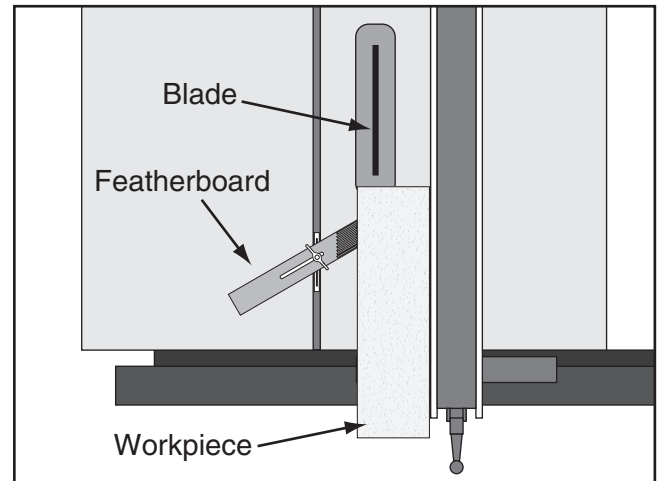

Figure 85. Featherboard installed in miter slot and supporting workpiece for ripping cut.
3. Slide the featherboard miter bar into the miter slot, making sure the fingers slant toward the blade, as shown in **Figure 85**.